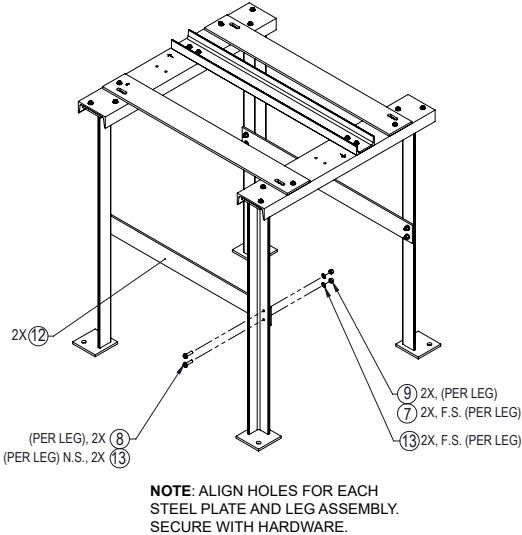

Figure 3. Assemble Steel Plate to Leg Assembly
3. Attach two (2) Steel Plates (Item 12) to the Leg assemblies. Secure the assemblies using the provided bolts, nuts and washers (Items 7, 8, 9 & 13). See **Figure 3**. Fully tighten all hardware.